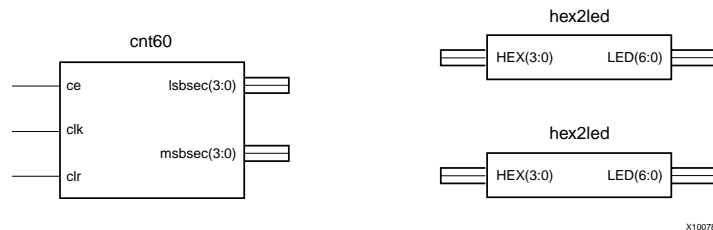

Figure 3-34: Placing the HEX2LED Component
3. Select **HEX2LED**, and add two instances of this symbol to the Watch schematic, as shown in Figure 3-34. You will connect the entire schematic later in the tutorial.